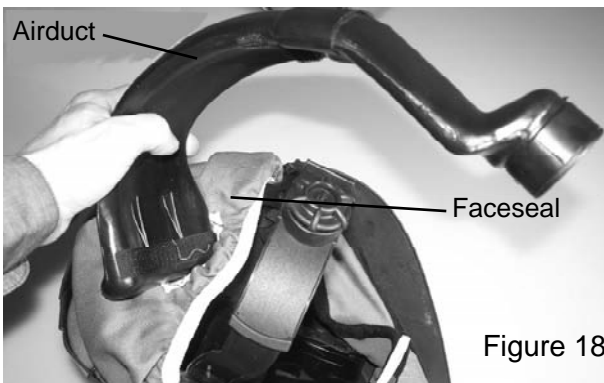

Figure 18
4. Insert the Airduet into the hole on the Faceseal as shown (fig. 18).